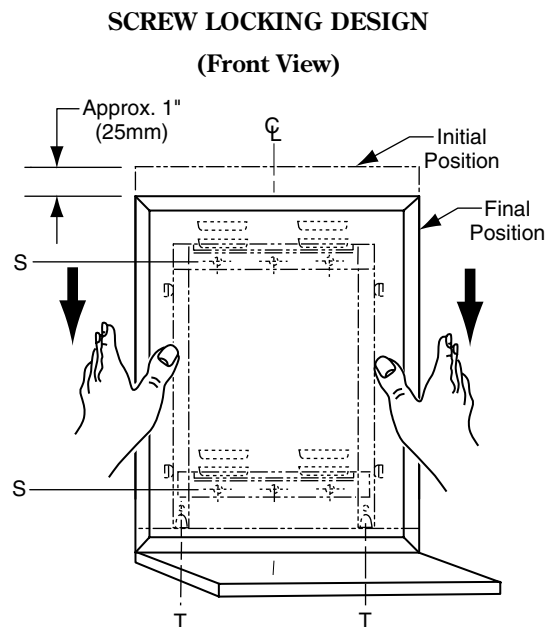

Figure: 4
**Screw locking Design** — Lock mirror to wall hanger by tightening Phillips-head locking screws that are concealed in the bottom of frame by points indicated by a T. Mirror may be unlocked from wall hanger by loosening locking screws and lifting mirror off of concealed wall hanger (see figure 4).